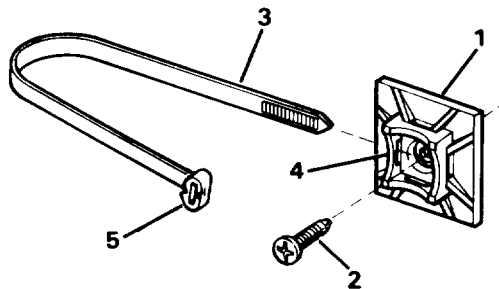

Figure 4-8. Tie Mounts
- a. All cable tie mounts on the ROWPU are installed as shown in Figure 4-8. Initial installation is as follows:
(1) Remove paper covering tie mount back (1) and push tie mount against the surface it is to be permanently attached to.
It is possible to install tie strap (5) backwards. Be sure to position as shown in Figure 4-8.